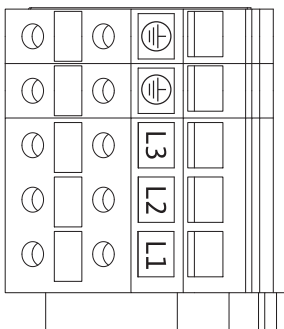

Fig. 28: Power terminals (mains connection terminals)
- Power terminals (mains connection terminals) (Fig. 28)